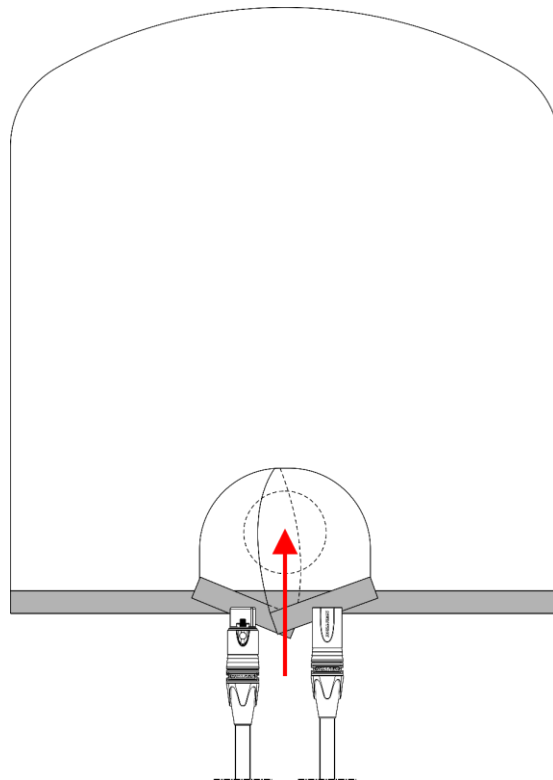

Fig. 17
- 02) Secure the stage luminaire with a secondary suspension, for example a safety cable. Make sure that the secondary suspension can hold 10 times the weight of the device. Put the safety cable through the **safety eye (06)**.
- 04) Put DMX cables through the hook-and-loop fastener opening on the plastic sleeve, so that the DMX connectors are protected from ingress of water (Fig. 17).